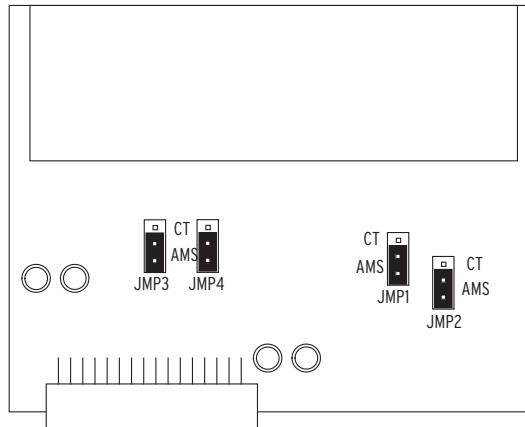

Figure 10.2 Jumpers on Current Card to Change to Low-Level Injection
- Step 1. Loosen eight (8) mounting (and one ground) screws on the back and remove the back cover.
- Step 3. Locate jumpers JMP1 through JMP4 and change them from the position labeled CT (Normal position) to position labeled AMS, as shown in *Figure 10.2* (Low-Level Test position).